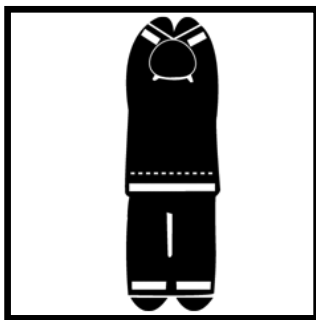

FIG. 5A
A. NFPA 1500 Standard Position A (**FIG. 5A**). While standing, reach over head as high as possible with your hands together. The inner liner of the coat must overlap the top of the trousers by no less than 2 inches (5 cm).